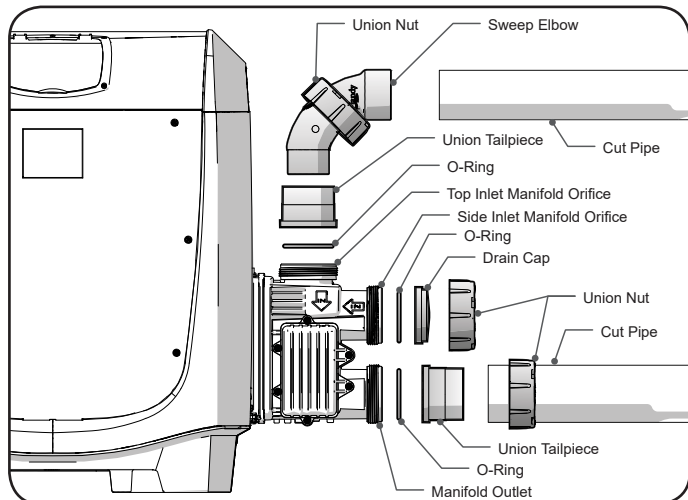

Figure 9. Inlet Piping
- Slide the union nut onto the cut pipe length, or sweep elbow. Ensure proper nut orientation with threads directed towards the heater manifold. See *Figure 9*.